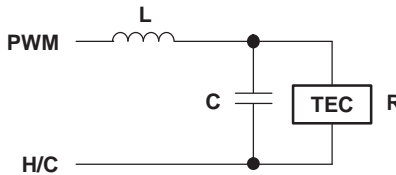

Figure 22. Output Filter
The transfer function for a second-order low-pass filter (Figure 22) is shown in Equation 5:
For the DRV593 and DRV594, the differential output switching frequency is typically selected to be 500 kHz. The resonant frequency for the filter is typically chosen to be at least one order of magnitude lower than the switching frequency. Equation 5 may then be simplified to give the following magnitude Equation 6. These equations assume the use of the filter in Figure 22.
- Changed figure cross reference from "Figure 17 and Figure 18" to "Figure 22" in the "LC FILTER....." section. 14